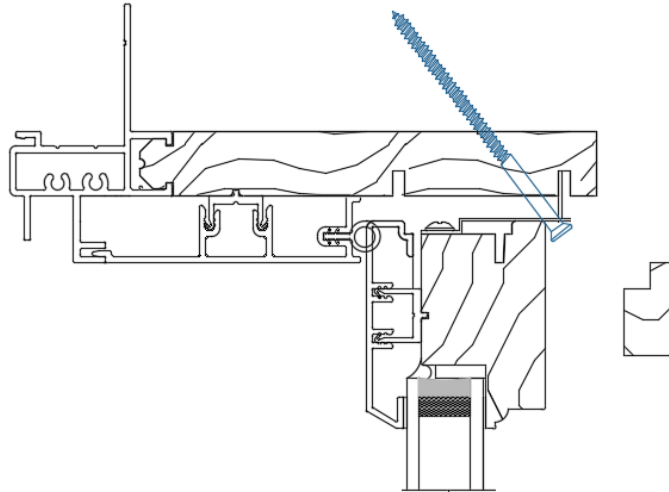

Figure 13
2. Insert one #6 x 2-3/4" screw (supplied by others) through each stationary head clip (see Figure 13) into the rough opening.